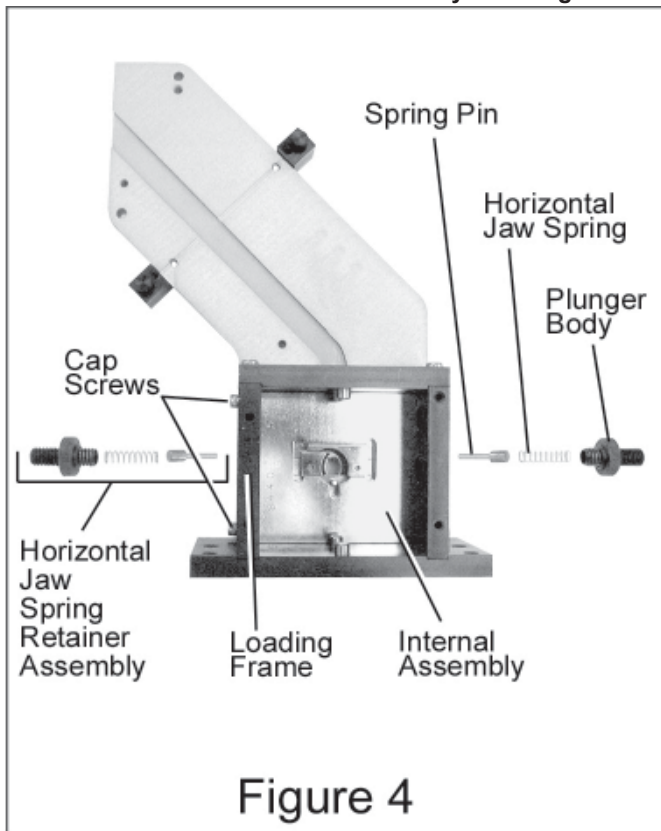

Figure 4
- 12) Remove the 2 Horizontal Jaw Spring Retainer Assemblies by loosening the Plunger Body on each side of the Head Assembly. Note how the large end of the Spring Pin fits against the Spring. *(Fig. 4 page 14)*
- 13) Remove the 4 Cap Screws located on the sides of the Head Assembly using a 9/64" (5/32" for ASP-2 machines) Allen wrench. Slide the Internal Assembly out of the back of the Head Assembly. *(Fig. 4 page 14)* (Note: The Internals fit very tightly.) Lay the Internals on a flat surface with the Back Up Plate on the top. *(Fig. 5a page 15)*
- 5) Reinsert the Internal Assembly into the Loading Frame through the back of the Head Assembly. (Note: The Internal Assembly fits into the Loading Frame very tightly and must be perfectly square with the Frame for insertion.) *(Fig. 4 page 14)*
Replace the 4 Cap Screws located on the sides of the Head Assembly using a 9/64" (5/32" for ASP-2 machines) Allen wrench. *(Fig. 4 page 14)*
- 6) Replace the Horizontal Jaw Spring Retainer Assemblies. The large end of the Spring Pin should be against the Spring. (Note: The Plunger Body should be finger tight.) *(Fig. 4 page 14)*